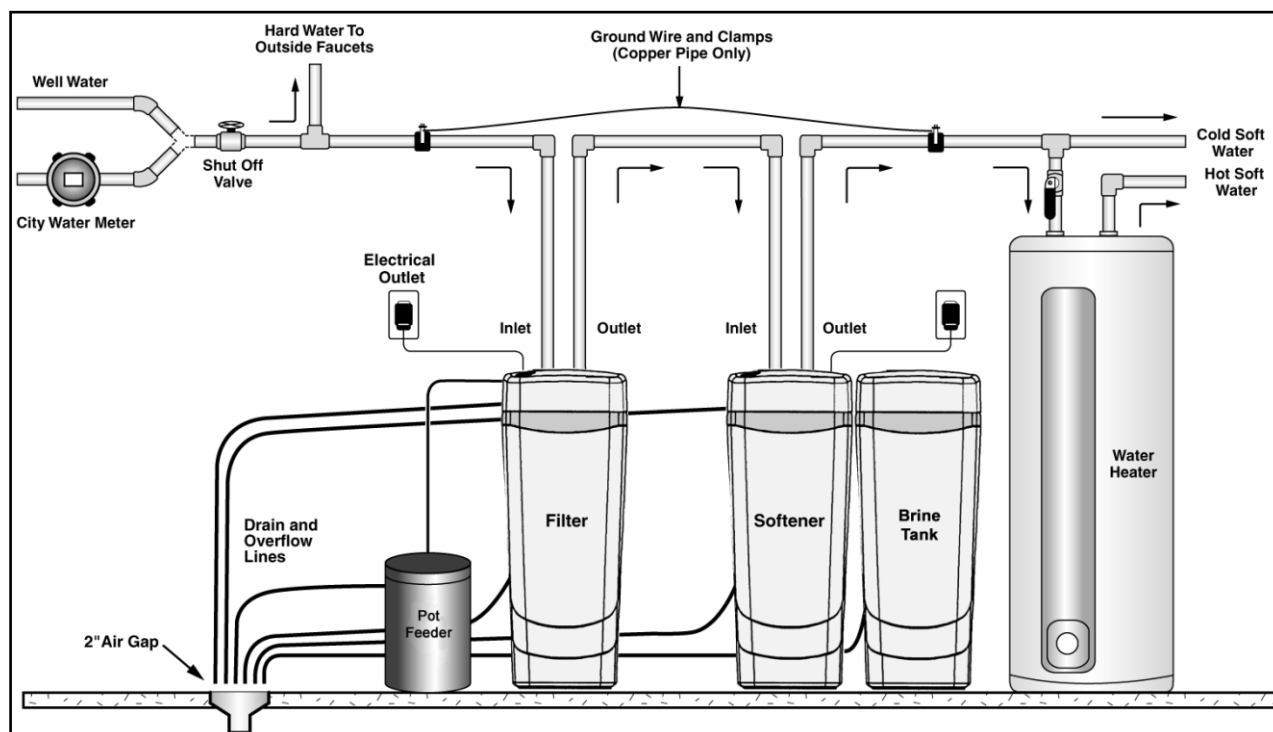

Figure 6: Iron Filter and Potassium Permanganate Feeder Placement
**Note:** The iron filter should be installed after the pressure tank or water meter and before the water heater or any water softener appliance, unless otherwise recommended. See Figure 6. A minimum 3/4-inch pipe is required for proper function of the filter. Examine the inlet piping to make sure the pipe is not plugged with lime or iron. If the piping is plugged, it must be cleaned or replaced.
- C. See Figure 6 for feeder placement.